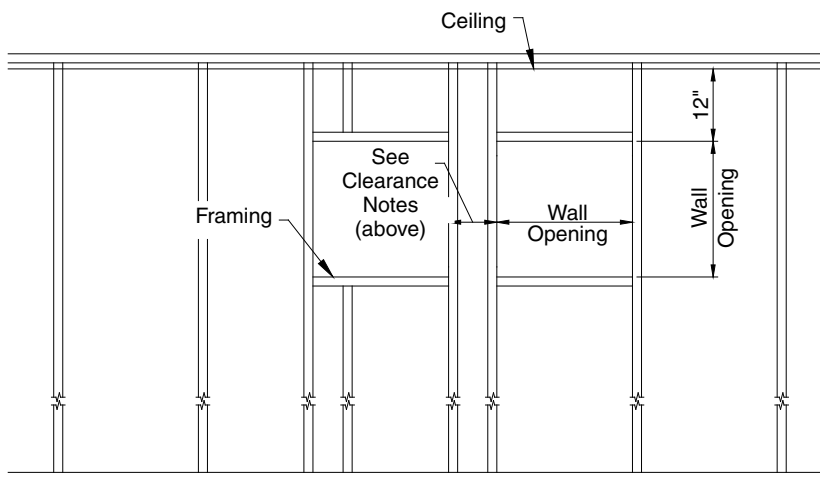

Figure 1
- 1) Construct the framed opening to correct size according to the chart (page 1) and your fan size. **See Figure 1 & 2.**